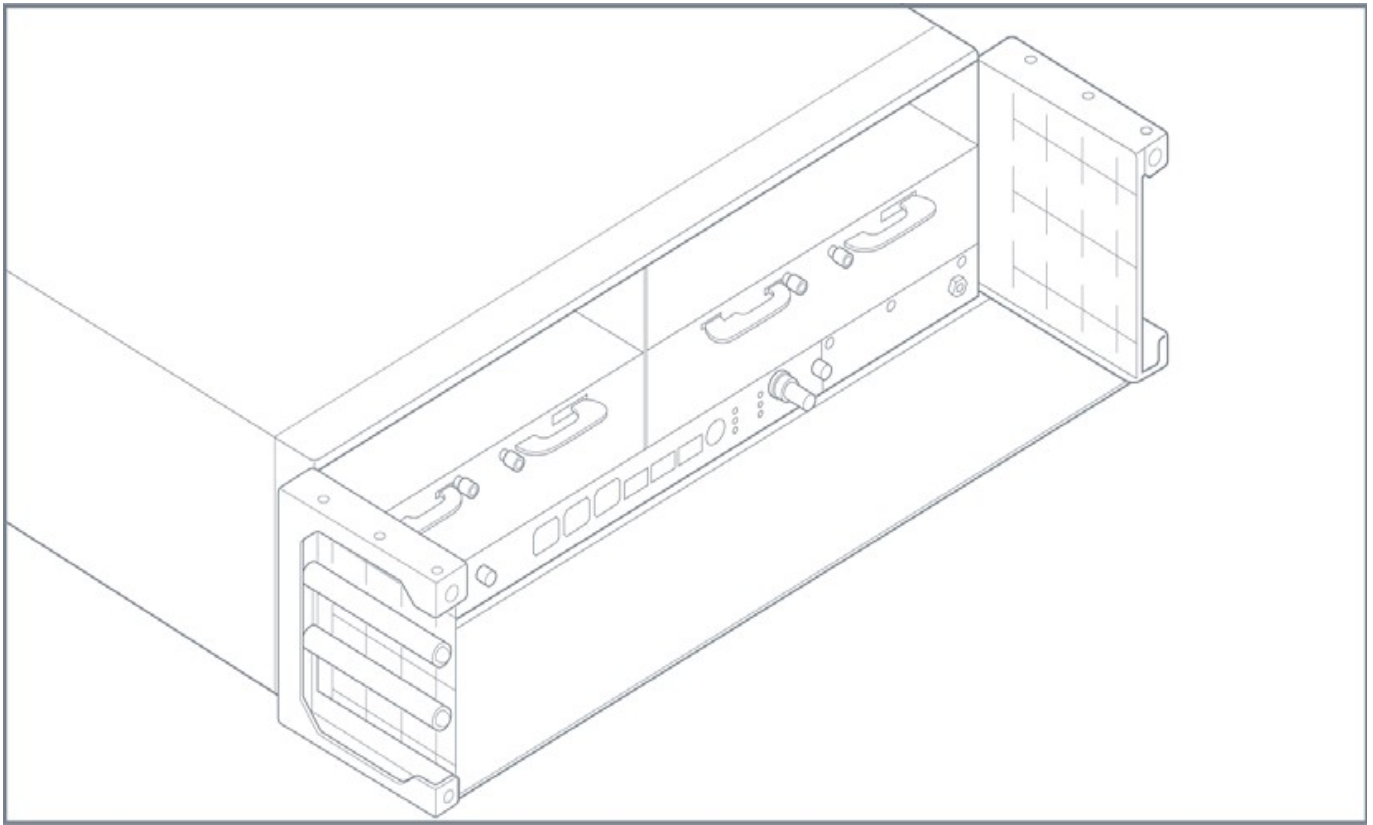

Figure 3-7: Cable Management Sides and Bottom Plate
3. Attach two screws on each side of the chassis, as shown in Figure 3-7: Cable Management Sides and Bottom Plate
3. Slide the bottom plate onto the two sides, as shown in Figure 3-7: Cable Management Sides and Bottom Plate
6. Tighten the two screws at the front of the cable management assembly, as shown in Figure 3-7: Cable Management Sides and Bottom Plate.